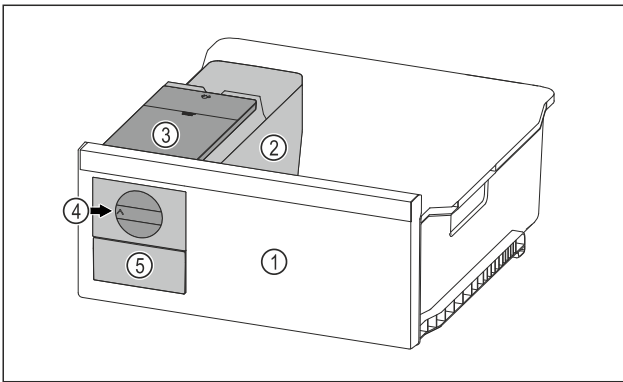

Fig. 140 Example illustration
- ▶ Turn the rotary knob *Fig. 140 (4)* clockwise as far as it will go.
- ▷ Ice cubes fall from the ice cube tray into the ice cube drawer *Fig. 140 (5)*.